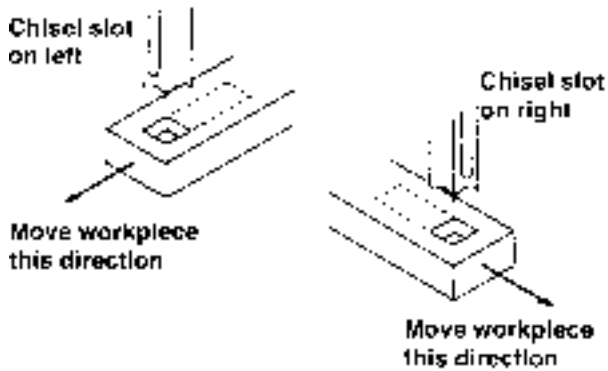

FIGURE 7
5. After the first cut, the workpiece is moved along with the right handwheel for each successive cut. The direction of movement must allow the chips to clear freely. Move the workpiece so that the slot in the chisel is releasing chips into the *already cut* part of the workpiece, Figure 7.